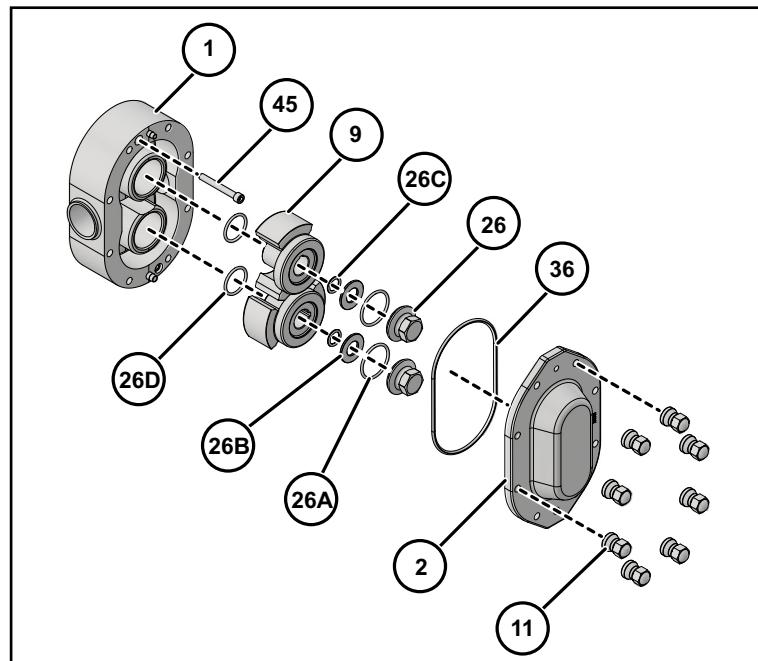
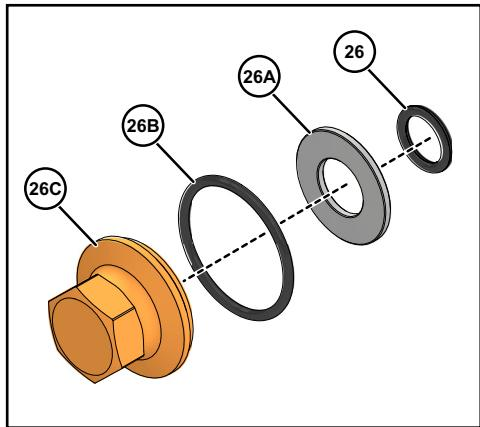
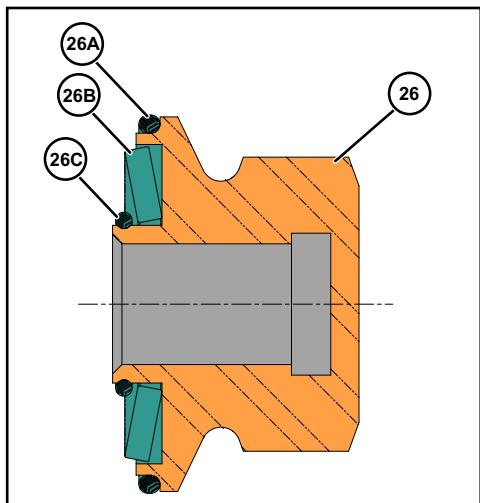

Figure 69 - Exploded View of Fluid Head
Figure 70 - Rotor Nut Assembly
Figure 71 - Cross-Section View of Rotor Nut Assembly, as Assembled
- Install the body (Figure 69, item 1) to the gear case assembly, aligning the body with the body studs. Avoid damaging the seals as the body is drawn over the shafts.
- Secure the body to the gear case using two cap screws (Figure 69, item 45).
1. Lubricate the rotor hub O-ring (Figure 69, item 26D) with a lubrication compound compatible with the O-ring material and process fluid(s).
2. Install new rotor hub O-rings (item 26D) into the groove on the rotor hubs.
3. Install the rotors (item 9) onto the shafts.
4. Align the keyways in the rotors with the keyways on the shafts and install the keys (item 26E).
**NOTE:** For rotor nut assembly detail, including orientation of the belleville-style washer (item 26B), see Figure 70 and Figure 71 on page 52.
See Figure 69 on page 51, and Figure 70 and Figure 71 on this page.
1. Clean the cover O-ring (See Figure 69 on page 51, item 36) and install it in the groove in the cover.
3. Install the cover (See Figure 69 on page 51, item 2) on the pump body.
5. Tighten the cover securely using the cover nuts (See Figure 69 on page 51, item 11) and Table 12.